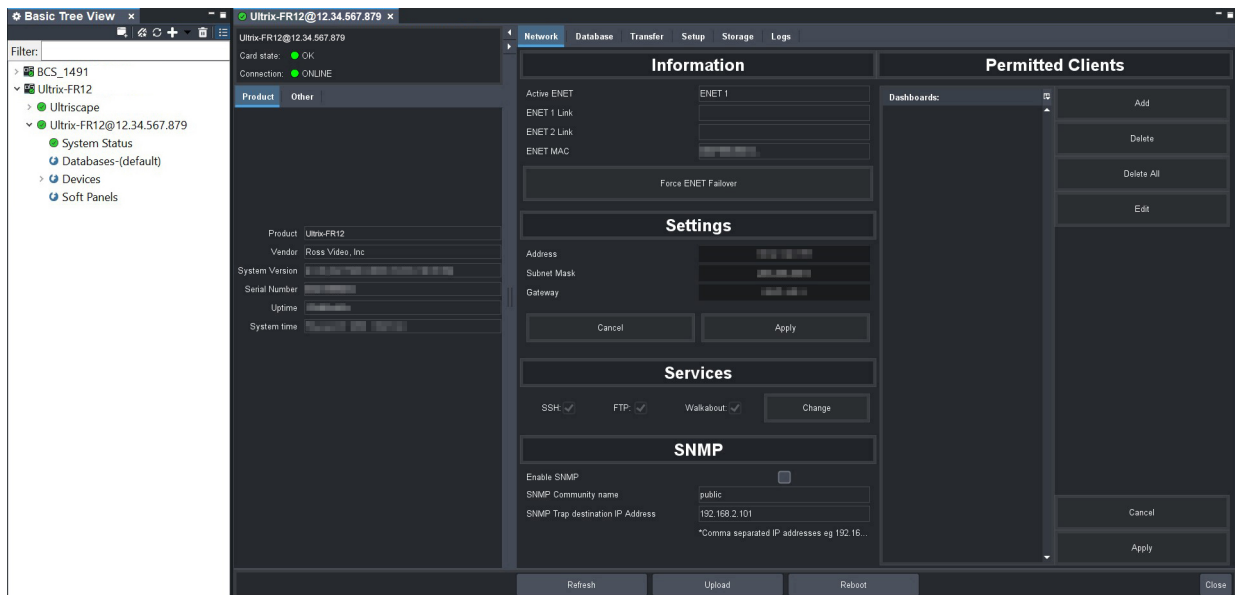

Figure 4 Example of the ULTRIX-FR12 > System Status Window
**Figure 4** illustrates an ULTRIX-FR12 tree in the Basic Tree View.
**Figure 4** illustrates an ULTRIX-FR12 displayed in the DashBoard client window after the user double-clicked the **System Status** sub-node.